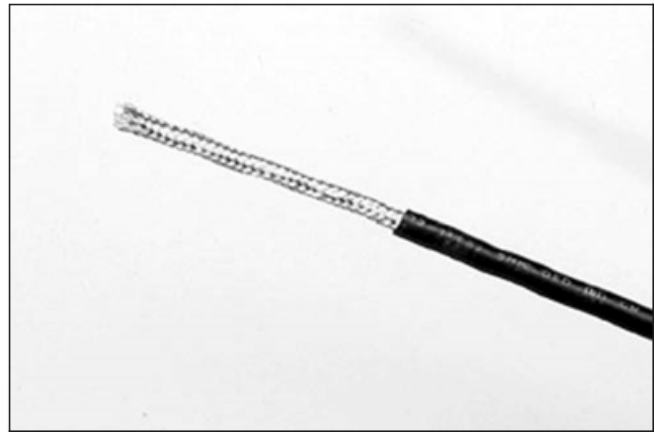

Figure 15 - Removing Outer Plastic Jacket
1. Remove two to three inches (5 to 8 cm) of the outer jacket of the cable as shown in Figure 15. Do not cut or nick the shield or the insulated conductors.